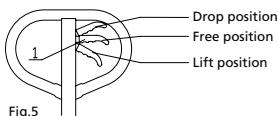

Fig.5
After the assembling is completed, put the Trigger at the different load position, test it by shaking the Trigger (1), to make sure if the lowering, neutral and raising operations are normal. Please refer to figure 5.
- See figure 5, when hand knob (10) is placed on the lift position, the truck will be in a state of lift. At this time, if you rock the hand grip, the truck will be lifted.
- When hand knob (1) is placed on the free position, the truck will travel. At this time, if you rock the hand grip, the truck will neither lift nor drop. Then, you can use the truck to move the cargo.